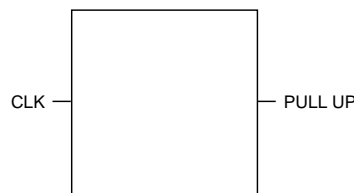

Figure 8-5 Example of the Placement of Pull-Up/Pull-Down Pins – 1
- a) Place the pull-up/pull-down resistors as far from the fast input-signal pins (e.g., clock input pin) as possible (Figure 8-5).